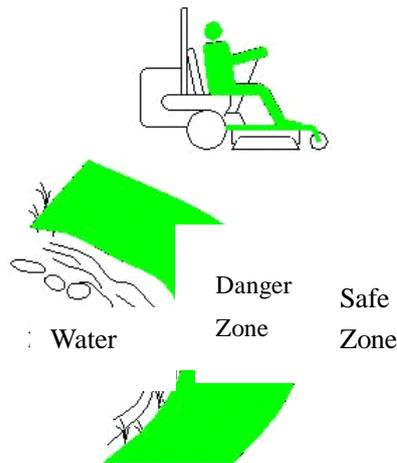

FIG 1
- Use a walk behind mower /or a hand trimmer near drop-offs, ditches, steep banks or water. This area can be dangerous, see Figure1.